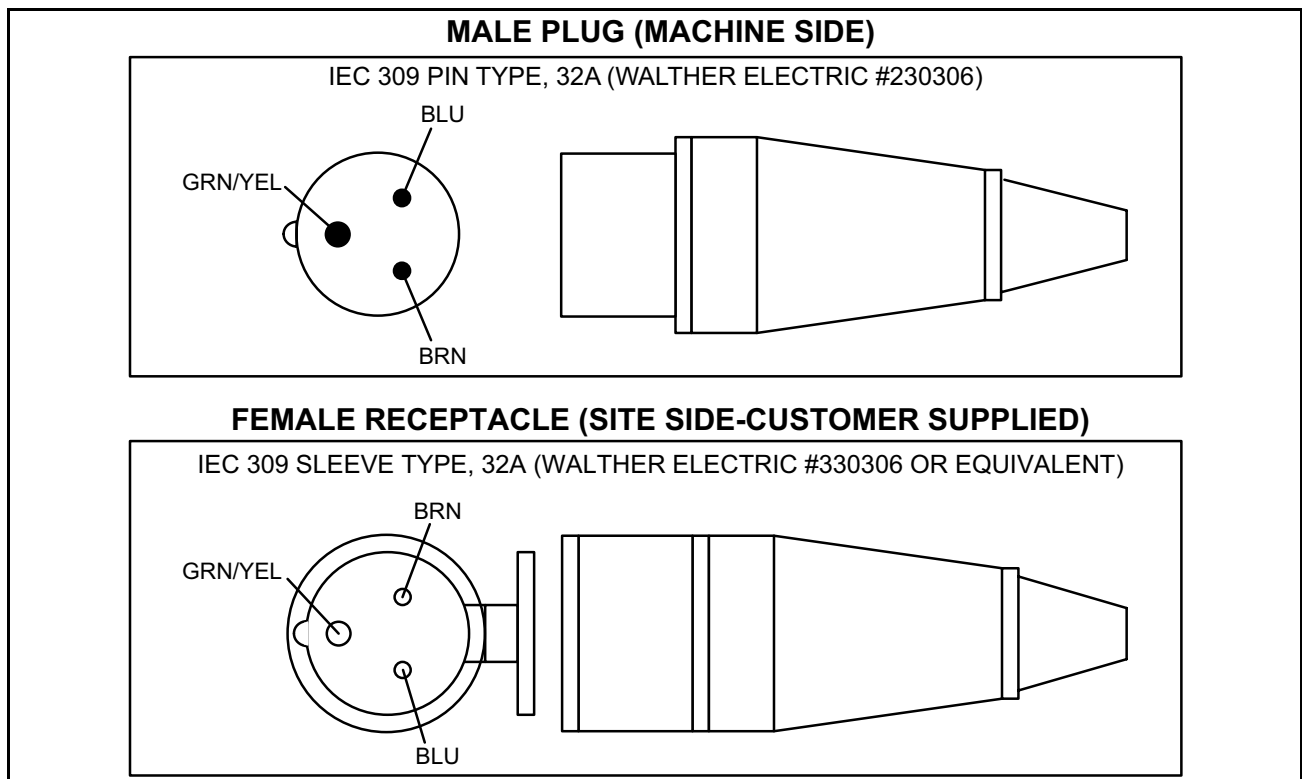

Figure 3-14: European (EU) Plug & Receptacle Requirements
For plug and receptacle installations, use an IEC 309 Sleeve type receptacle (Walther Electric #330306 or equivalent). See European (EU) plug and receptacle diagram in Figure 3-14.